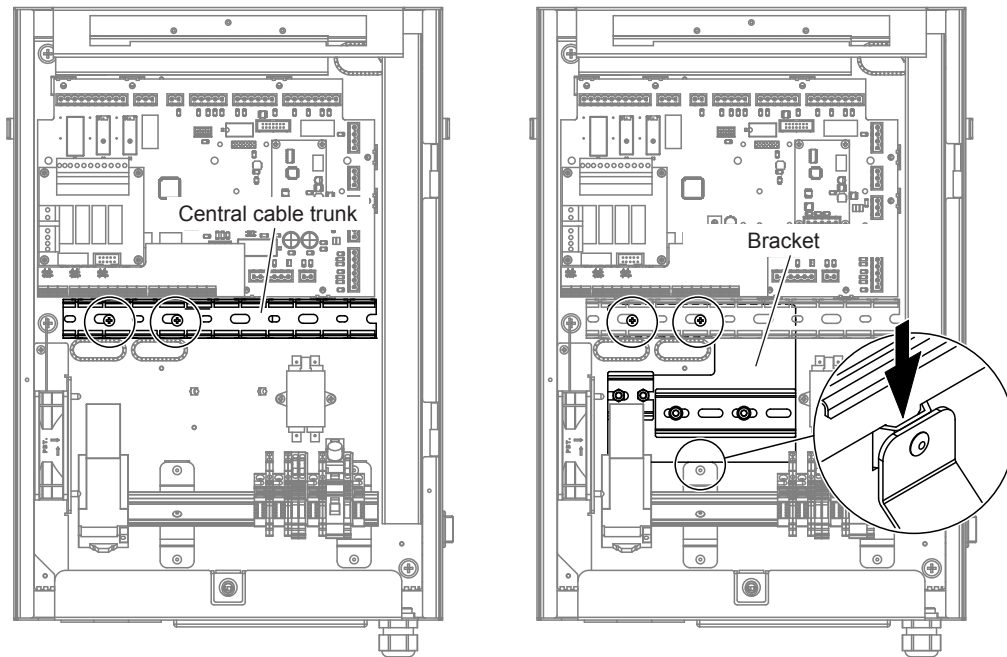

Fig. 4: Bracket Installation
4. Remove the lid of the central cable trunking, then remove both screws/washers that secure the cable trunking (see Fig. 4).
5. Place the bracket underneath the cable trunking and rest the bracket tab on the slot as shown in the image below (see Fig. 4).
- Fasten the bracket and cable trunking using the screws and washers (see Fig. 4).